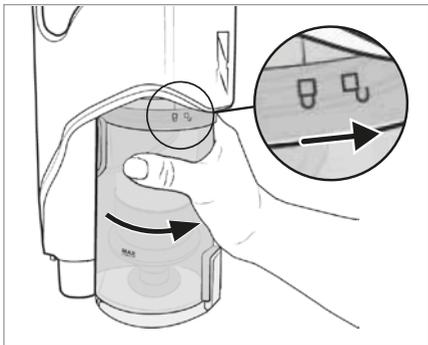

Fig. 25
- 8) Put the dust container **7** back into the appliance and turn it in the direction of the symbol  (close) until it is firmly seated in the appliance (see Fig. 25).